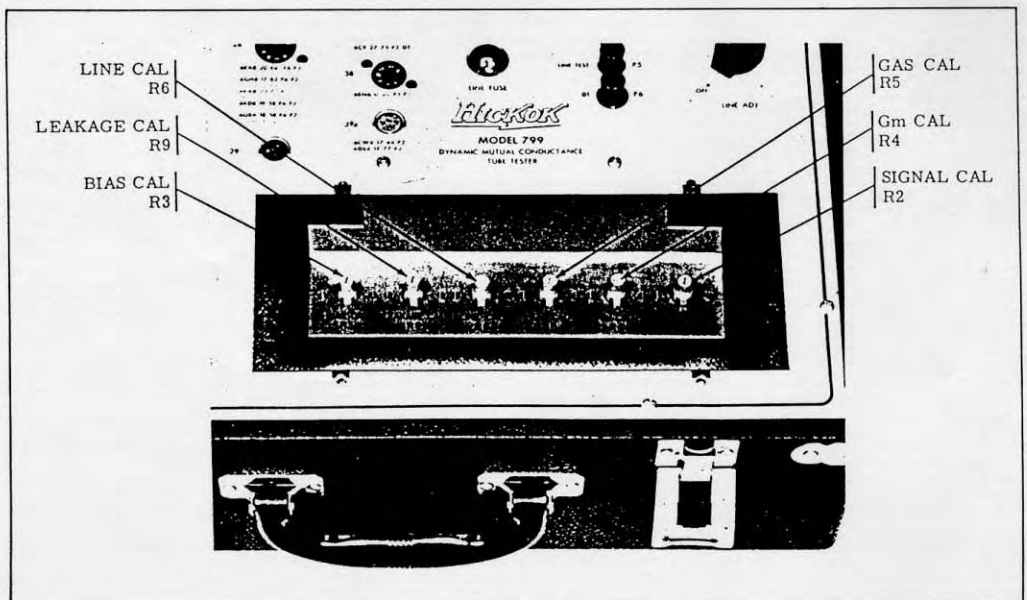

Figure 9. Calibration Controls
All calibration controls are located beneath the cover plate on the panel of the unit. It is only necessary to remove four screws. It is not necessary to remove the instrument from its case. See figure 9.
- Connect the AC VTVM between plate (P) and cathode (K) jacks on the front panel.
- Connect the DC VTVM between grid (G) and cathode (K) jacks on the panel. Plus (+) to cathode (K), minus (-) to grid (G).
- Adjust BIAS CAL R3 (figure 9) for a 50 volt reading on the DC VTVM.
- Adjust LINE CAL R6 (figure 9) for a half-scale reading (LINE TEST) mark on the meter of Model 799.
e. Connect the DC microammeter between the grid (G) and cathode (K) jacks on the panel with the 1 meg, $\pm 5\%$, 1/2 watt resistor in series with the DC microammeter. Press and hold down push-button P1 and adjust BIAS control on front panel of Model 799 for a 10 microamperes reading on the DC microammeter.
f. Adjust GAS CAL - R5 (figure 9) for a full scale reading on the Model 799 meter. If full scale reading cannot be obtained, set for highest possible reading. This highest possible reading (but under 1000 on the meter scale) is satisfactory. A slight variation at this point is not critical.
- Connect a jumper between the grid (G) and the cathode (K) jacks on the front panel.
- Adjust LEAKAGE CAL - R9 (figure 9) for a full scale reading on the Model 799 meter.
- Connect the AC VTVM between the grid (G) and the cathode (K) jacks on the front panel. Meter ground to cathode jack (K).
- Press and hold down push-button P1 and adjust SIG CAL - R2 (figure 9) for a reading of 2.5 volts (RMS) on the AC VTVM.
- Connect a 1K, $\pm 5\%$, 10 watt resistor between the plate (P) and the cathode (K) jacks on the front panel.
- Press and hold down push-button P2 and adjust Gm CAL - R4 (figure 9) for a 0 (zero) meter reading on the Model 799 meter.